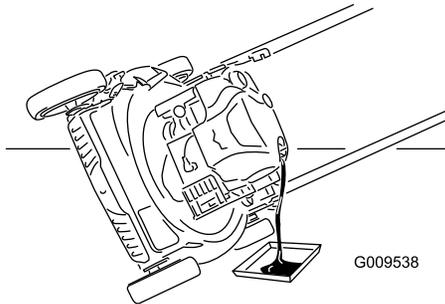

Figure 25
3. Tip the machine onto its side with the air filter up to drain the used oil out through the oil-fill tube (Figure 25).